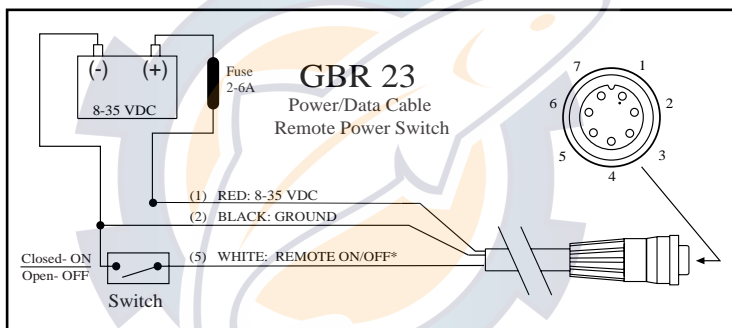

Figure 2: Wiring a Remote Power Switch For the GBR 23
5. If a remote power switch is being installed, see Figure 2. This will allow the GBR 23 to remain connected to a power source, but manually powered on and off. If the receiver is being wired to a circuit which is already switched, (with the GPS for example) connect the WHITE wire to ground or the same location as the BLACK wire. When the BLACK and WHITE wires are combined, the GBR 23 will turn on/off when power is applied/removed to the RED (+) and BLACK (-) wires.